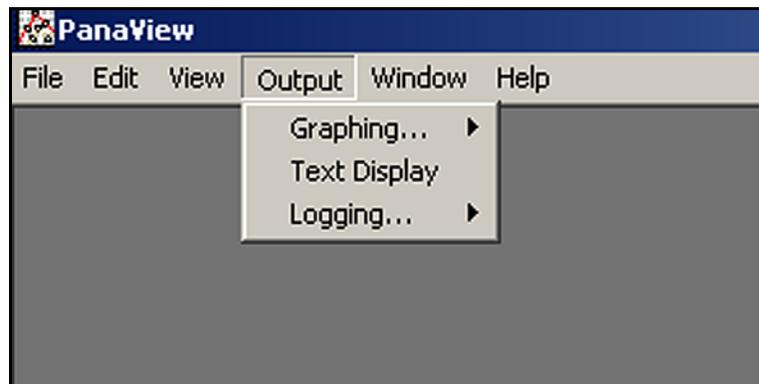

Figure 18: The Output Menu
1. In PanaView, pull down the *Output* menu, as shown in Figure 18 below, and click on the *Text Display* option.